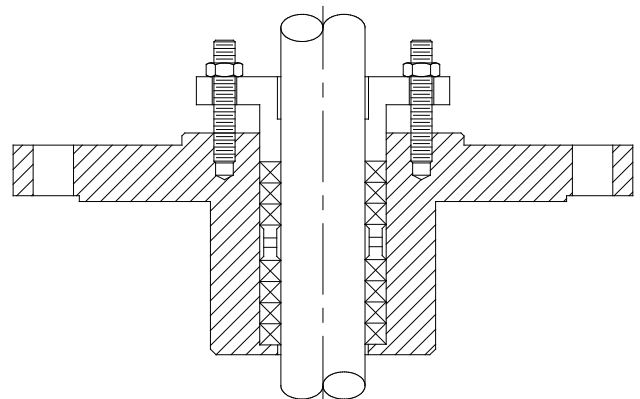
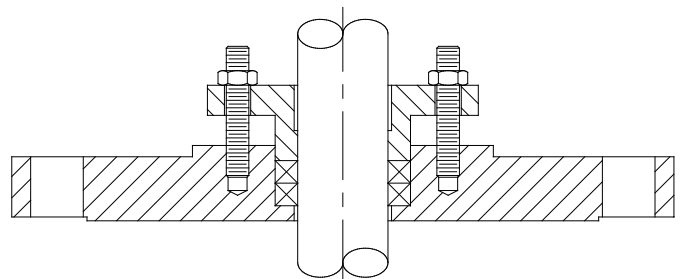

FIGURE 1: Seven-Ring Stuffing Box
FIGURE 2: Two-Ring Stuffing Box
Your BRAWN Mixer has been furnished with either a standard, seven-ring, stuffing box (see Figure 1), or a low-pressure, two-ring, stuffing box (see Figure 2), depending on the application requirements. Unless otherwise specified, the packing material will be one of those shown in Figure 3 (Page 2). Refer to the mixer specification sheet to ascertain the type of stuffing box and packing material that have been supplied with your mixer.
6. Coat all surfaces of the packing rings and lantern ring (if applicable) with a high-quality lubricant that is compatible with the product and suitable for the service conditions, and install in the sequence shown in Figure 1 or Figure 2.